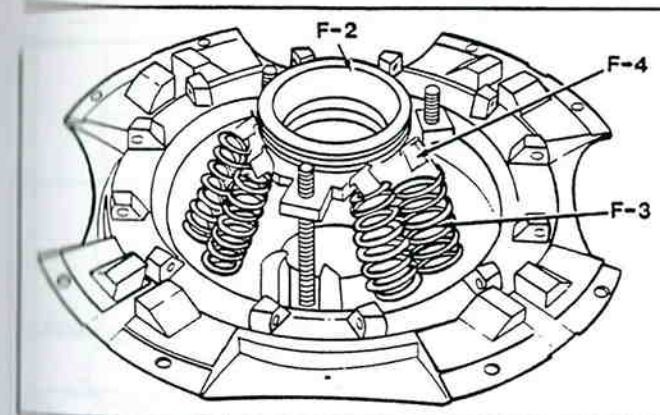

Figure 5-17. Install Release Sleeve Retainer.
4. Place release sleeve retainer (F-2) in position, guided on threaded rods. Install pressure springs (F-3) between spring pivots (F-4). Place hex nuts on three threaded rods and draw down enough to hold release sleeve retainer assembly in place (figure 5-17).